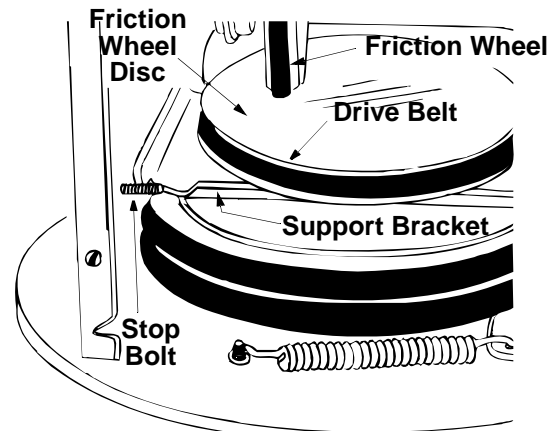

Figure 31
7. Back out the stop bolt to allow the belts to slip between the bolt and auger pulley. See Figure 31.
8. Lift the rear auger belt from the auger pulley, and slip belt between the support bracket and the auger pulley. See Figure 31. Repeat this step for front auger belt.
3. Back out the stop bolt until the support bracket rests on the auger pulley. See Figure 31.
4. Slip belt between friction wheel and friction wheel disc. See Figure 31. Remove and replace belt. Reassemble following the instructions in reverse order.
NOTE: The support bracket must rest on the stop bolt after the new belt has been assembled. See Figure 31.